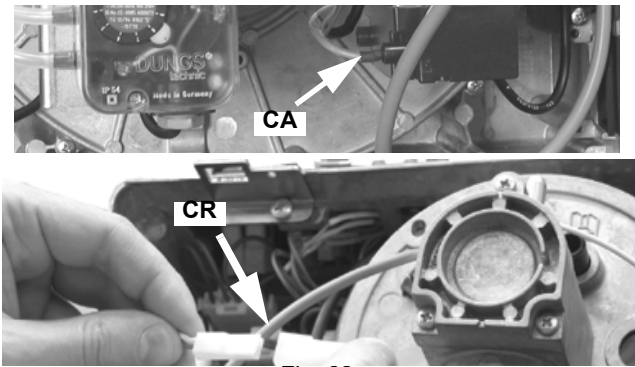

Fig. 63
- 3 Disconnect the ignition cable **CA** from the ignition transformer (Fig. 63).